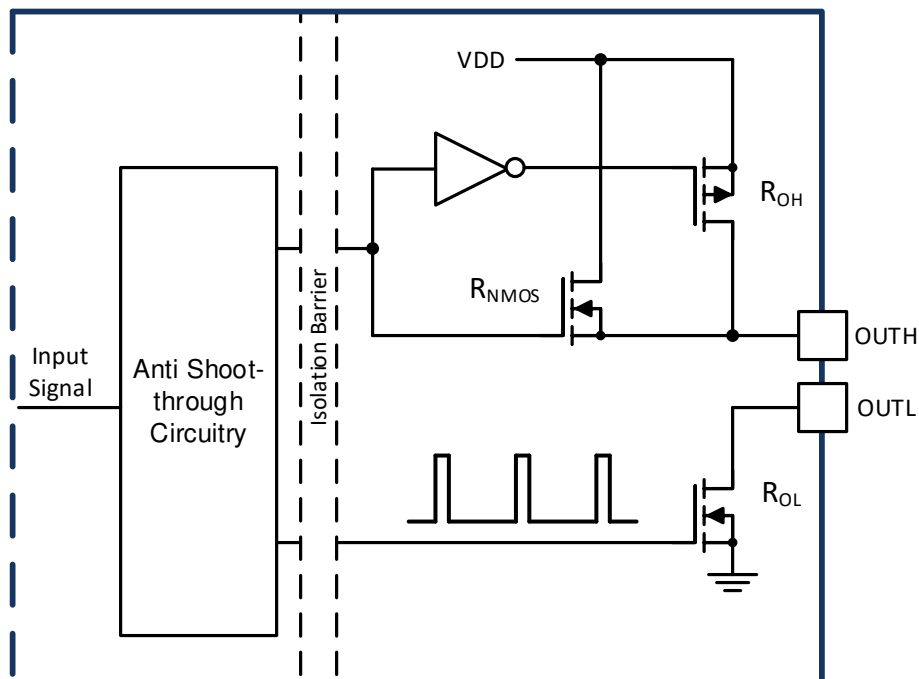

Figure 8-1. Gate Driver Output Stage
The UCC21750-Q1 has ± 10 -A peak drive strength and is suitable for high power applications. The high drive strength can drive a SiC MOSFET module, IGBT module or paralleled discrete devices directly without extra buffer stage. The UCC21750-Q1 can also be used to drive higher power modules or parallel modules with extra buffer stage. Regardless of the values of VDD, the peak sink and source current can be kept at 10 A. The driver features an important safety function wherein, when the input pins are in floating condition, the OUTH/OUTL is held in LOW state. The split output of the driver stage is depicted in Figure 8-1. The driver has rail-to-rail output
by implementing a hybrid pull-up structure with a P-Channel MOSFET in parallel with an N-Channel MOSFET, and an N-Channel MOSFET to pulldown. The pull-up NMOS is the same as the pull down NMOS, so the on resistance R_{NMOS} is the same as R_{OL} . The hybrid pull-up structure delivers the highest peak-source current when it is most needed, during the miller plateau region of the power semiconductor turn-on transient. The R_{OH} in Figure 8-1 represents the on-resistance of the pull-up P-Channel MOSFET. However, the effective pull-up resistance is much smaller than R_{OH} . Because the pull-up N-Channel MOSFET has much smaller on-resistance than the P-Channel MOSFET, the pull-up N-Channel MOSFET dominates most of the turn-on transient, until the voltage on OUTH pin is about 3 V below VDD voltage. The effective resistance of the hybrid pull-up structure during this period is about $2 \times R_{OL}$. Then the P-Channel MOSFET pulls up the OUTH voltage to VDD rail. The low pull-up impedance results in strong drive strength during the turn-on transient, which shortens the charging time of the input capacitance of the power semiconductor and reduces the turn on switching loss.
- $R_{\text{OH_EFF}}$ is the effective internal pull up resistance of the hybrid pull-up structure, shown in Figure 8-1, which is approximately $2 \times R_{\text{OL}}$, about 0.7Ω . This is the dominant resistance during the switching transient of the pull up structure.